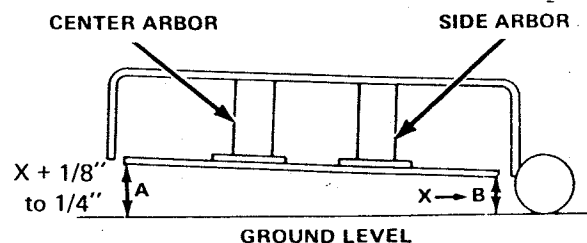

FIGURE 6
1. Rotate all three blades so that the tips are pointed directly toward front and rear. (See Figure 6).
3. Remove the shoulder bolts which hold the adjusting rod eyebolts to the roller brackets. Note that the shoulder bolt heads are toward the inside, the nuts on the outside. Adjust the eyebolts to obtain a height of 2-1/8 to 2-1/4 inches at point A. To raise the front of the mower, turn the two eyebolts IN, CLOCKWISE on the adjusting arms. To lower the front of the mower, turn the eyebolts OUT, COUNTER-CLOCKWISE. After obtaining the correct height at point A, be sure to recheck point B. (See Figure 6)